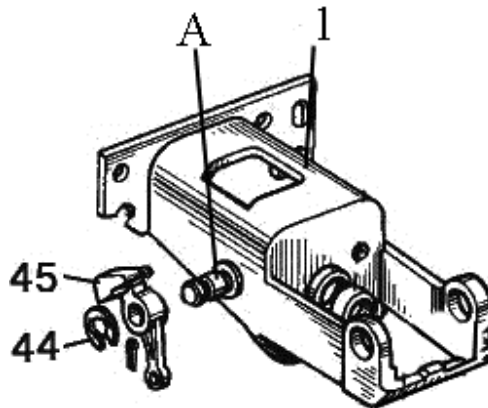

Figure 7.13
- 1) secure arm (1) (figure 7.13) in bench vice, lubricate axle (A) with grease LITOL-24;
- 2) put clamp (45) on axle (A) and lock with ring (44);